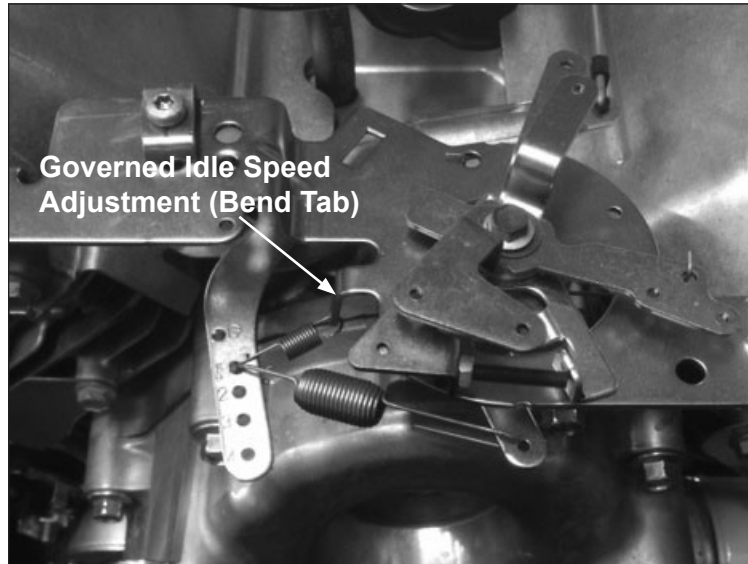

Figure 1. Governed Idle Speed Adjustment.
- 3) Recheck the GOVERNED IDLE SPEED and if necessary reset to 1750-1800 RPM. (See Figure 1.)